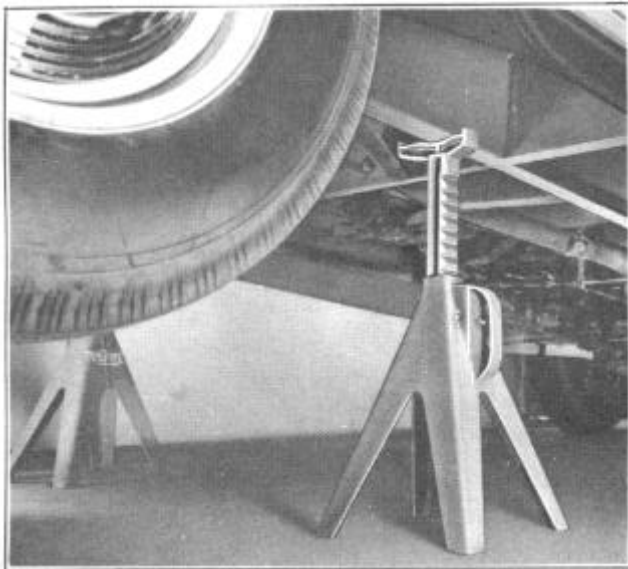

FIGURE 3
1. Tack up car, place car stands under body frame just forward of rear springs, See Figure 3.